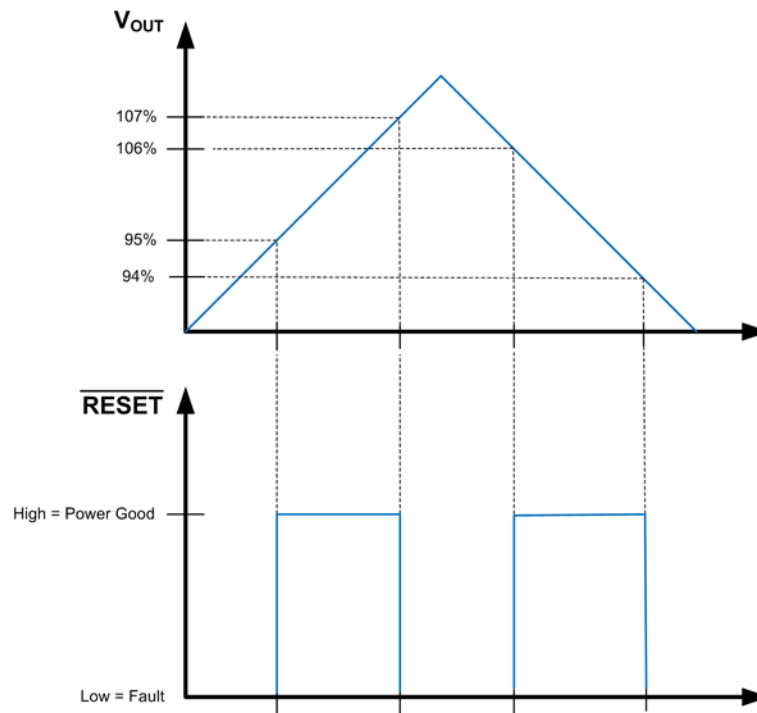
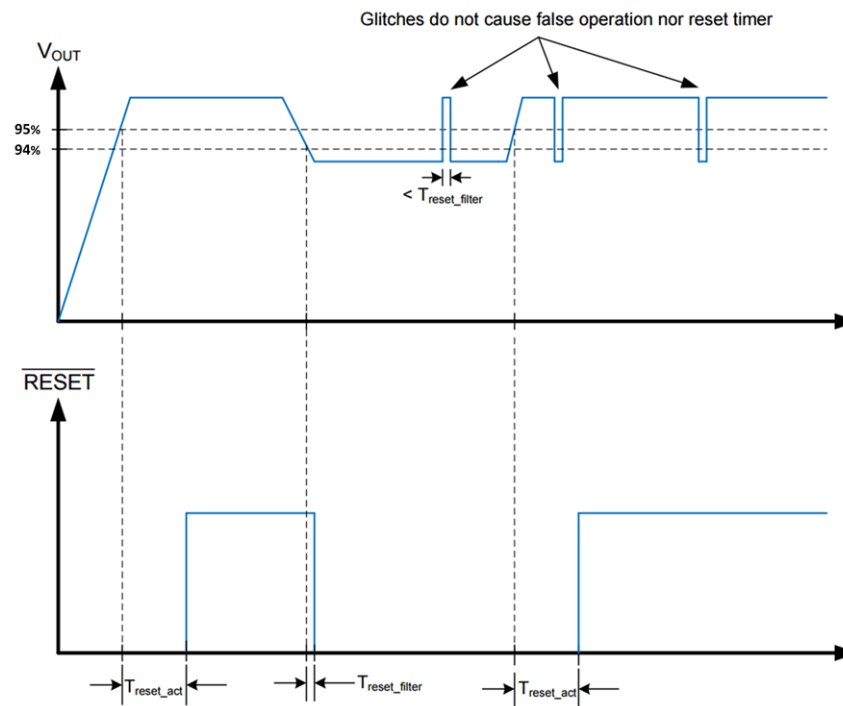
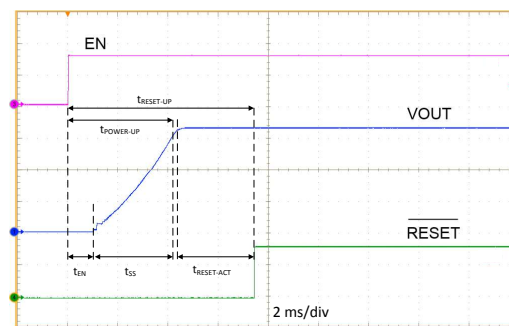

Figure 10. Static RESET Operation
Figure 11. RESET Timing Behavior
Figure 12. Typical Start-Up Waveform
- A delay has been added between the point at which the output voltage is within specified limits and the flag asserts Power Good. A glitch filter prevents false flag operation for short excursions in the output voltage, such as during line and load transients. See Figure 11 and Figure 12 for more detail.
Because the $\overline{\text{RESET}}$ comparator and the regulation loop share the same reference, the thresholds track with the output voltage. When EN is pulled low, the $\overline{\text{RESET}}$ flag output is forced low. When the device is disabled, $\overline{\text{RESET}}$ remains valid as long as the input voltage is ≥ 1.5 V. $\overline{\text{RESET}}$ operation can best be understood by reference to Figure 10 and Figure 11. Output voltage excursions lasting less than $T_{\text{RESET-filter}}$ do not trip $\overline{\text{RESET}}$. Once the output voltage is within the prescribed limits, a delay of $T_{\text{RESET-act}}$ is imposed before $\overline{\text{RESET}}$ goes high. This enables tighter tolerance than is possible with an external supervisor device while also expanding the system allowance for transient response without the need for extremely accurate internal circuitry.
A typical start-up waveform is shown in Figure 12 along with timing definitions. This waveform indicates the sequence and timing between the enable input, output voltage, and RESET. From the figure, the user can define several different start-up times depending on what is relevant to the application. Table 2 lists the timing definitions and typical values.